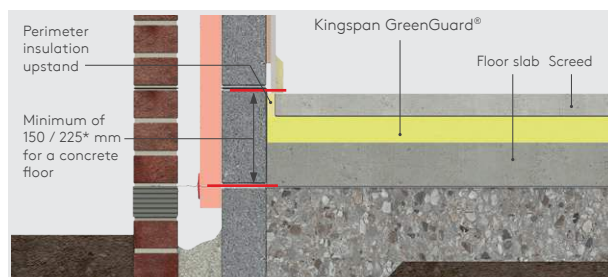

Figure 1 - Complete concrete floor insulation
For buildings with relatively small ground floor areas (primarily domestic properties), if the ground floor is left uninsulated, the thermal performance will be poor. To enhance the thermal performance, complete insulation of the ground floor should be adopted (Figure 1).
- In order to minimise cold bridging at the edge of the floor, the distance between the top surface of the floor insulation or perimeter insulation upstand, and the bottom of the wall insulation must be a minimum of 150 / 225* mm for a concrete floor (see Figures 1 & 2). The further down the wall insulation extends past the floor insulation, the better the thermal performance of the junction between the wall and the floor.